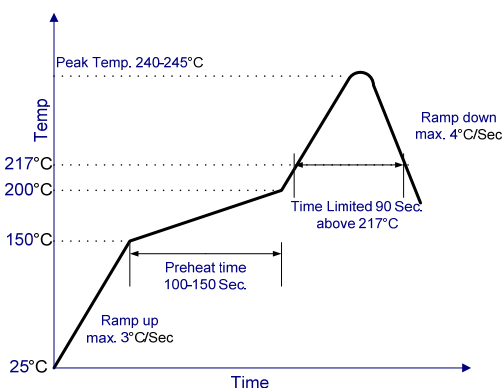

Figure 24. Recommended linear reflow profile using Sn/Ag/Cu solder.
**Figure 24. Output Current Derating for the Base Plate QBDW025A0B-H in a Cold wall application; Local Internal Air Temperature near module=80°C, VIN = 48V, VOUT setting anywhere from 6.0V to 12.0V.**
linear reflow profile using Sn/Ag/Cu solder is shown in Figure 24.